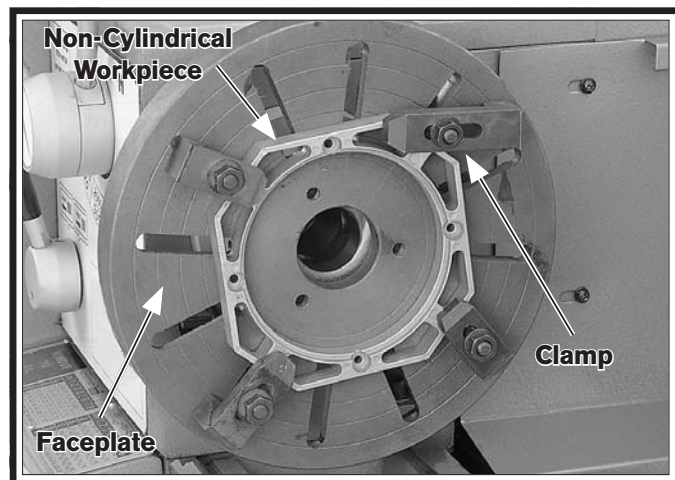

Figure 38. Example photo of workpiece clamped in a faceplate.
3. With help from another person or a holding device to support the workpiece, position it onto the faceplate and clamp it in place with a minimum of three independent clamping devices (see **Figure 38** for an example).